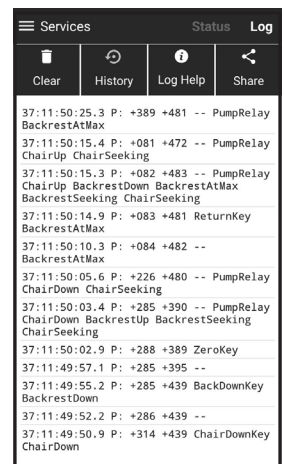

Fig. 4
- 5 View Log:** Tap **Log** in the upper left of the screen to enter the Log Section of the app (Fig. 4) where you can view the Log Entries in real time as you operate the chair. You can also download the log history of the chair for the last 500 log entries, and you can tap the Share icon to email that log information to DCI Edge Technical Service Team for additional assistance. The Log Help window includes additional information for understanding the log entries and viewing the list of troubleshooting tips.